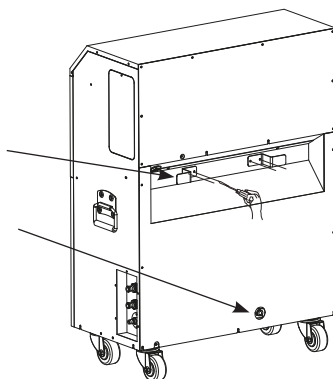

Figure 3 - Back and left side View
3. Use screws (enclosed inside of accessory box with cord holder) to install the cord holder in the unit as shown in Figure 3.